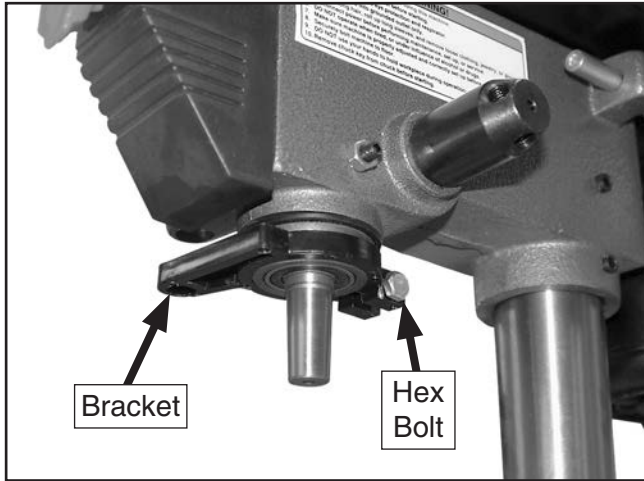

Figure 2. Depth stop bracket hex bolt.
2. Loosen the hex bolt shown in **Figure 2**, then slide the depth stop bracket off the quill flange.